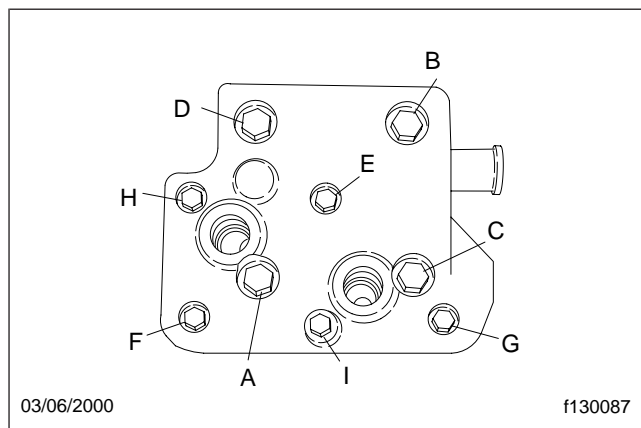

Fig. 3
* See Fig. 3 for Bolt Locations